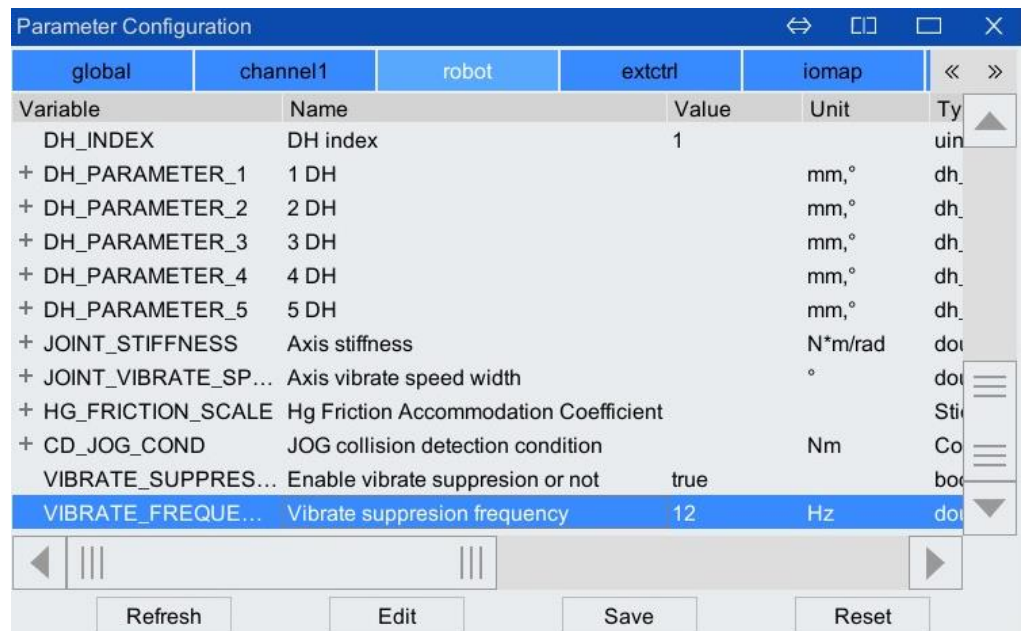

Figure 10-15 Parameter setting page
Step5. In the "Robot" configuration interface, select "Vibrate suppression frequency (VIBRATE\_FREQUENCY)", and click the <Edit> button. As shown in Figure 10-15.